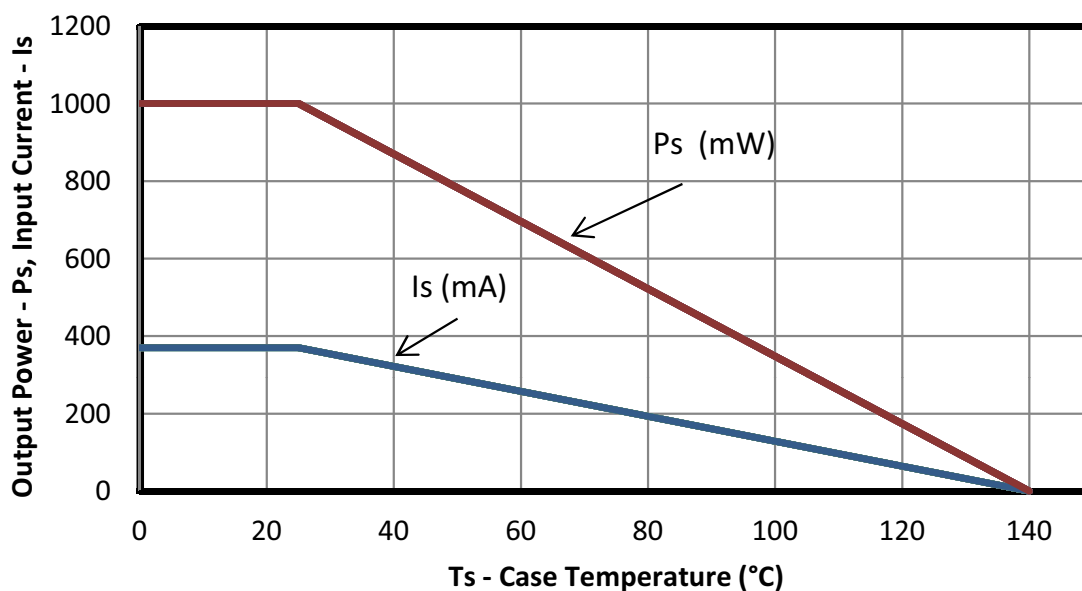

Figure 3. (SOIC-8) Thermal Derating Curve, Dependence of Safety Limiting Values with Case Temperature per VDE0884 part 10
**Note:** Maximum value allowed in the event of a failure; also see the thermal derating curve in Figures 3, 4, and 5.